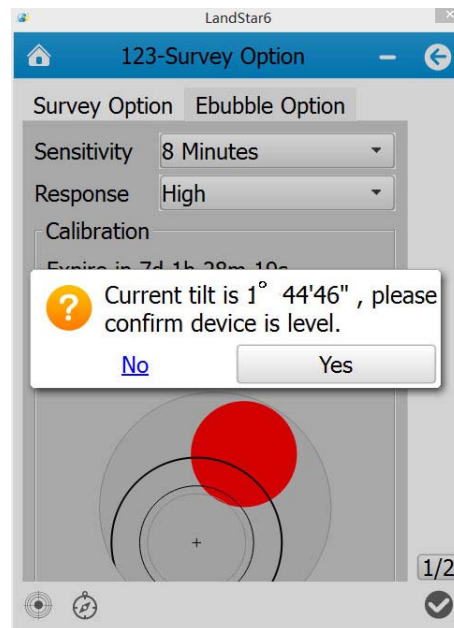

Figure 2
**Ebubble:** when clicking this button, there will be a prompt about offset information(Figure 2). The tilt angle must be within 2 degrees or the calibration can not be done. Then click **[Yes]**, and Ebubble calibration starts. When the Ebubble is green in the center, users have just finished Ebubble calibration.